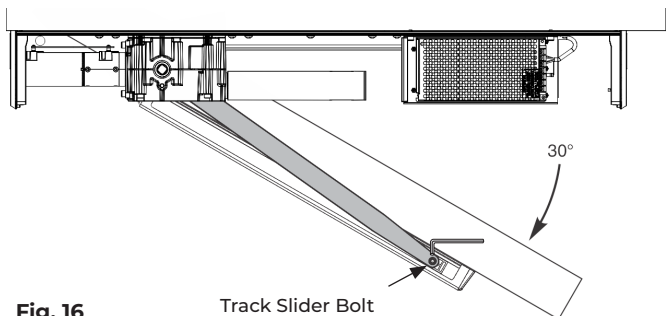

Fig. 16
3. Using hex wrench, secure arm to pinion with screw and nut. (Fig. 16)
4. Open door approximately 30 degrees and attach arm to slider in track. Use hex wrench to tighten slider bolt counter clockwise until slide is tight in arm. (Fig. 16)